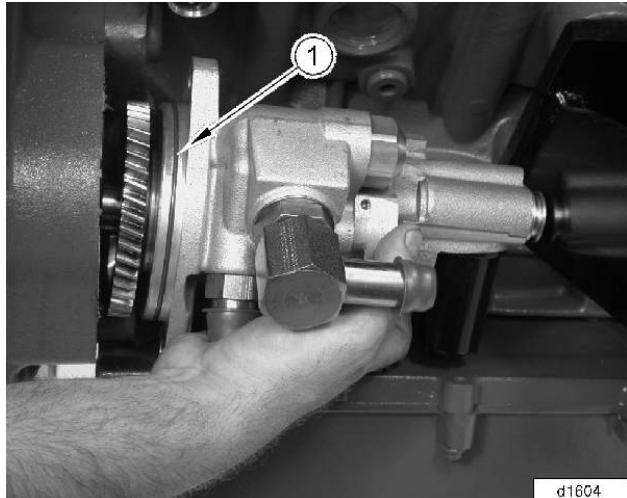

Figure 20 Lubricate O-ring and Install Power Steering and Fuel Pump Assembly
19. Lubricate the O-ring with clean engine oil and install power steering and fuel pump in rear cover (Figure 20).